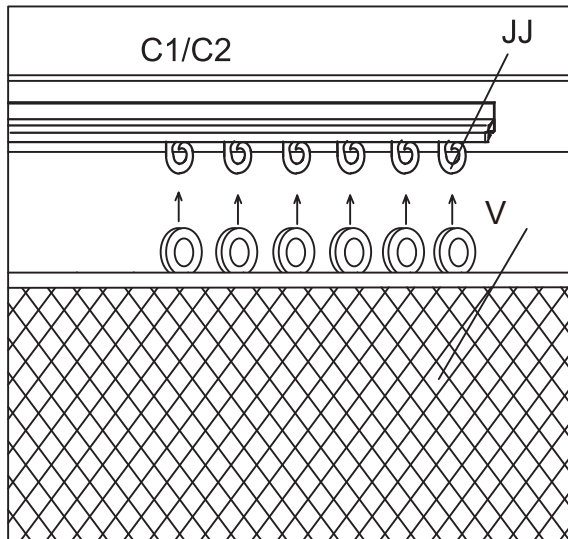

Figure 16-1
16.1: Hang the Mosquito Net (V) to the Mosquito Net Hooks (JJ). Hanging on the inner side of the track, Repeat for all sides. See Figure 16-1 .